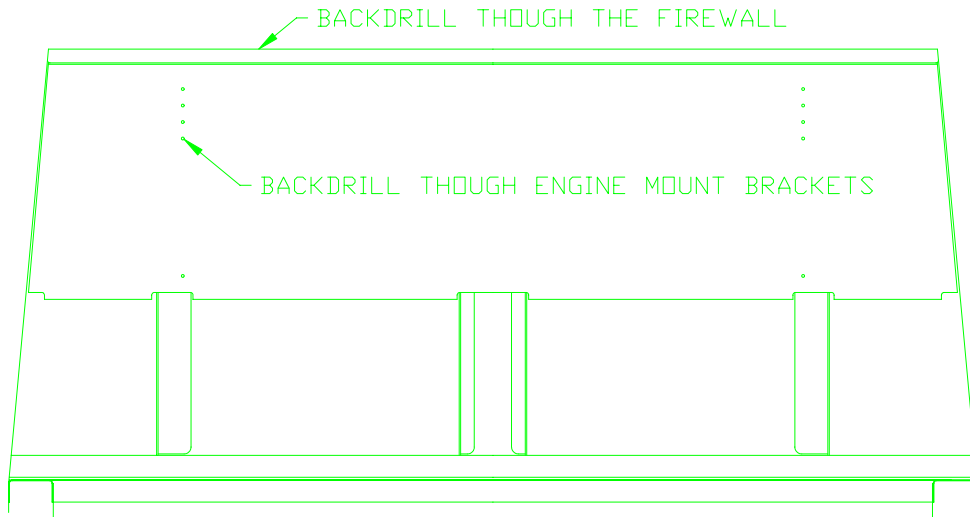

FIGURE 2
- 2) Center the floor skin in the cabin with the forward flange tight against the firewall. Back drill the flange to #30 through the holes in firewall. Add holes between existing holes with a nominal rivet pitch of approximately $1 \frac{1}{4}$ ". Figure 2.